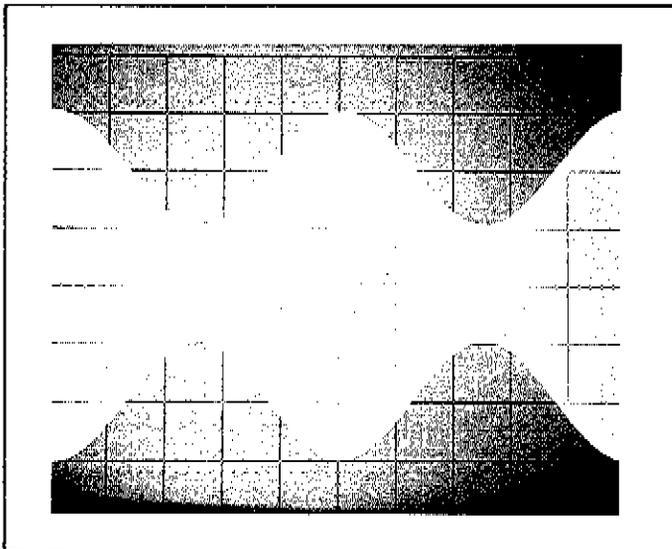

Figure 3-3. Amplitude Modulation Envelope
e. Connect the Oscilloscope to the RF Section OUTPUT and verify the modulation envelope is similar to that of Figure 3-3.